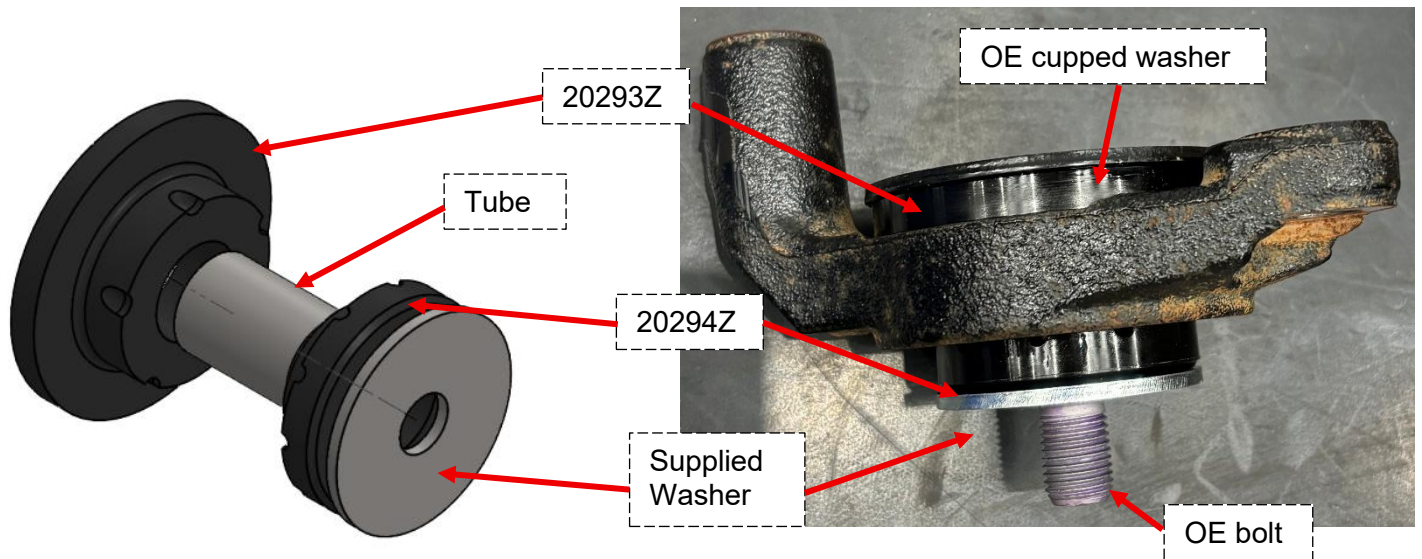

Figure 3: Rearward Differential Bracket New Bush Assembly
4. For the rearward bracket (red): this bracket consists of 2 main pieces – the main bracket that houses the bush and a washer with bonded rubber. It also has a top cupped washer that will need to be reused. Using a hydraulic press remove the bush from the main bracket with suitable press tools. With reference to Figure 3 below, assemble the bush. The supplied washer will require a press to press onto the OE bolt.